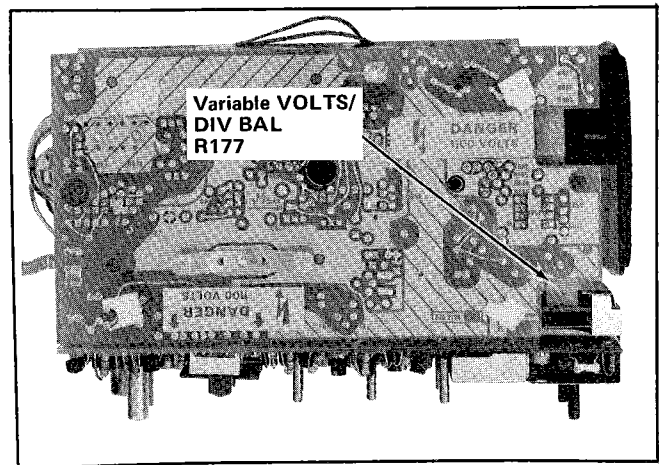

Fig. 5-5. Location of the VOLTS/DIV Var Bal adjustments.
d. Adjust the VAR VOLTS/DIV BAL adjustment for a trace shift for no more than 0.1 division. See Fig. 5-5.